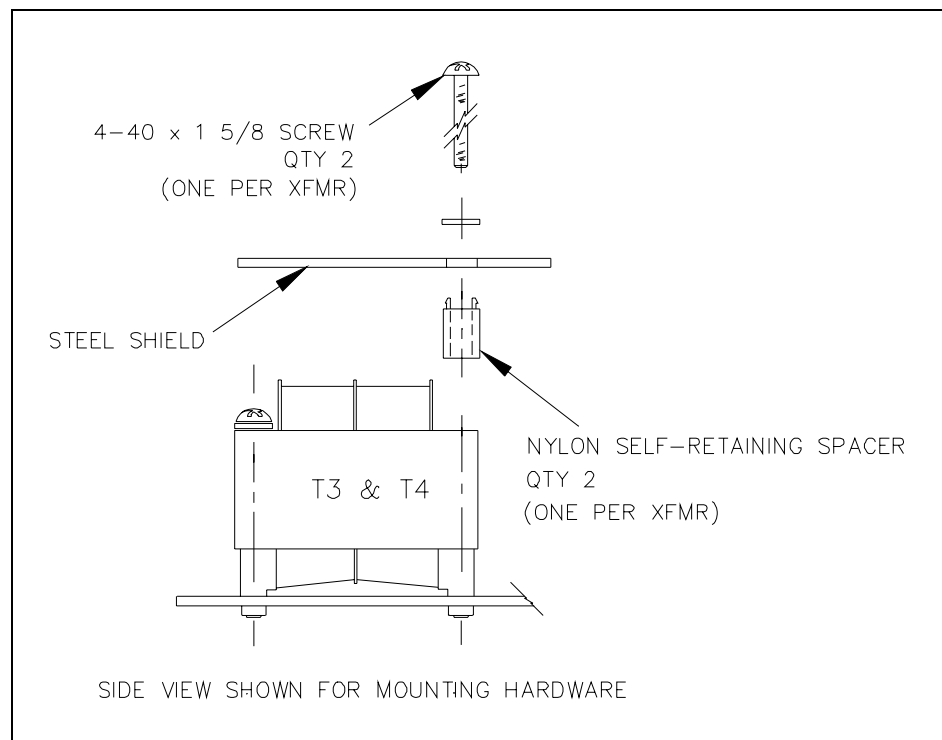

Figure 1.
5. Remove the inner two 4-40 screws that secure the T3 and T4 transformers to the 69382-001 PCBA. (One screw, located closest to the center of PCBA, is removed from each transformer.) Refer to Figure 1 below.